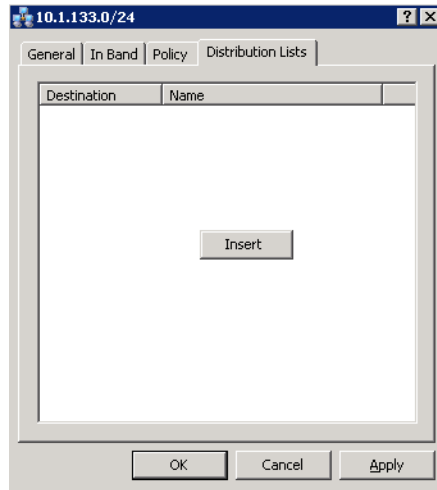

Figure 3-30 Properties Distribution List tab
7. The **Distribution Lists** tab (figure 3-30) allows the operator to set up a list of sites to be included in a switch under defined circumstances. For example, this feature can be used to tune expansion demodulators at a list of sites to receive a multicast video stream.